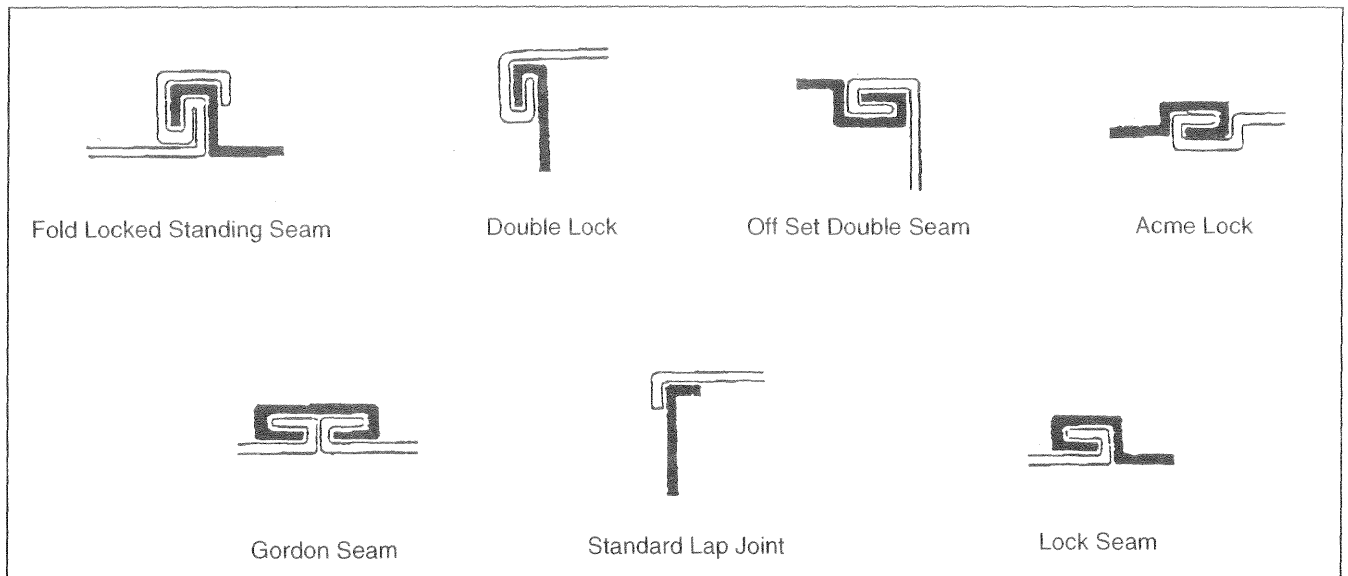

Figure 15 — Types of Lock Seams
- Seams and joints of the galvanized steel (whether used as a liner or the compartment itself) must be lapped and mechanically secured. Such seams may be manufactured, welded, bolted, riveted, or screwed. Manufactured lock seams are shown in Figure 15.